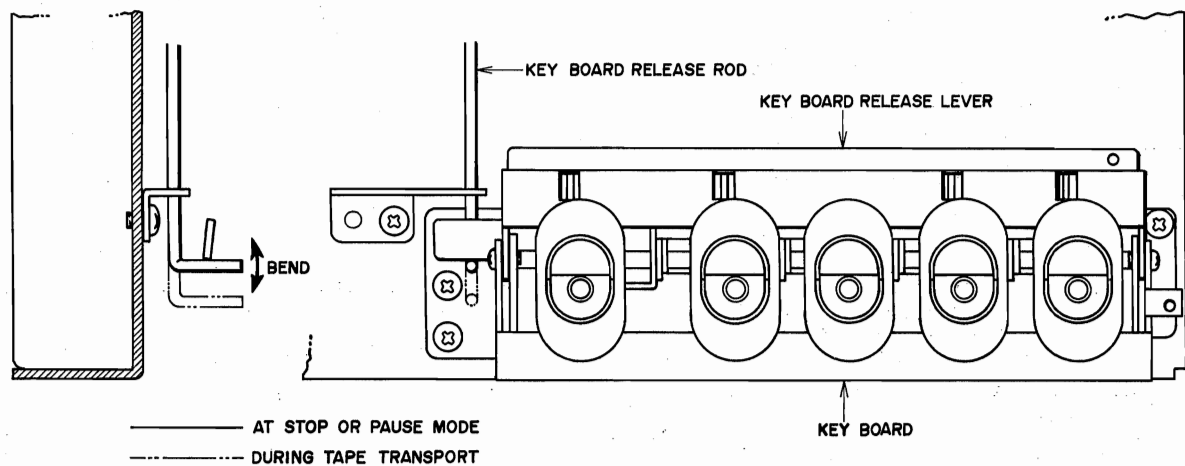

Fig. 17
9. KEYBOARD RELEASE ROD ADJUSTMENT (Refer to Fig. 17)